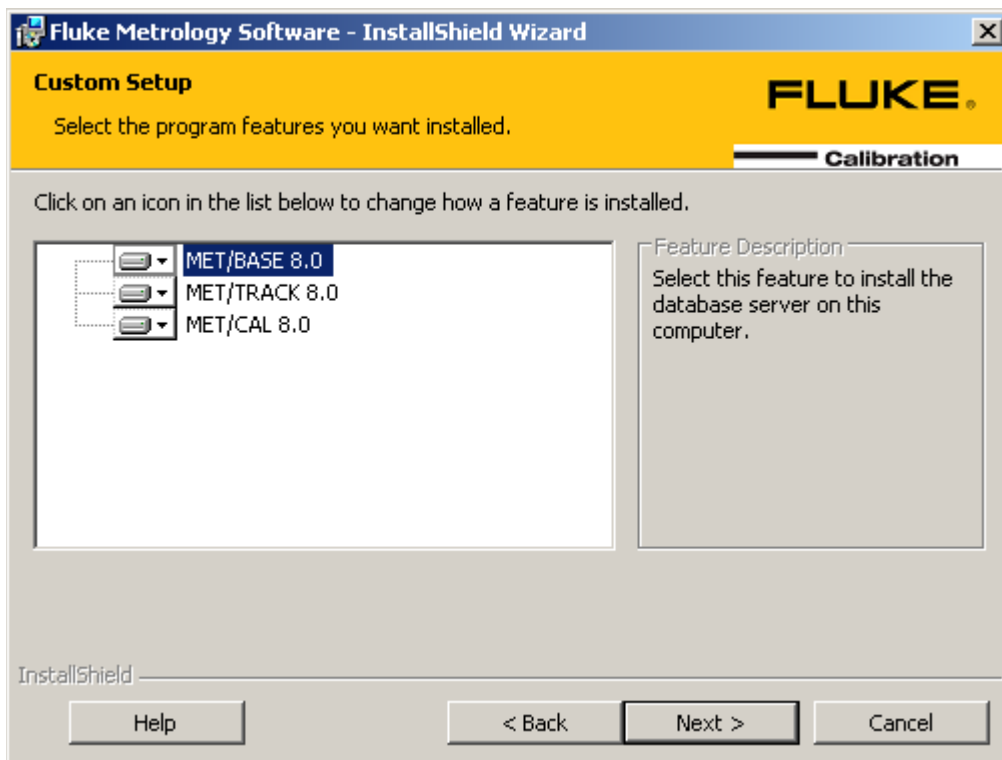

Figure 3. Custom Installation
- Click **Next** to proceed. If you selected the Full/Custom Installation option, the Custom Setup dialog is displayed, see Figure 3. By default, all features are selected for installation.